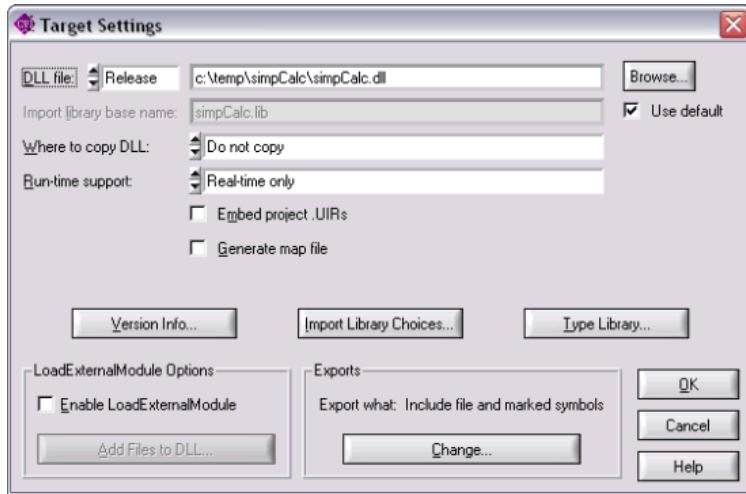

Figure 3. Target Settings Dialog Box
12. Click **Change** to open the DLL Export Options dialog box. Select the `simpCalc.h` header file to ensure that only the functions that were prototyped in the header file will be exported from the DLL. When you finish, the Target Settings dialog box should look like Figure 3.